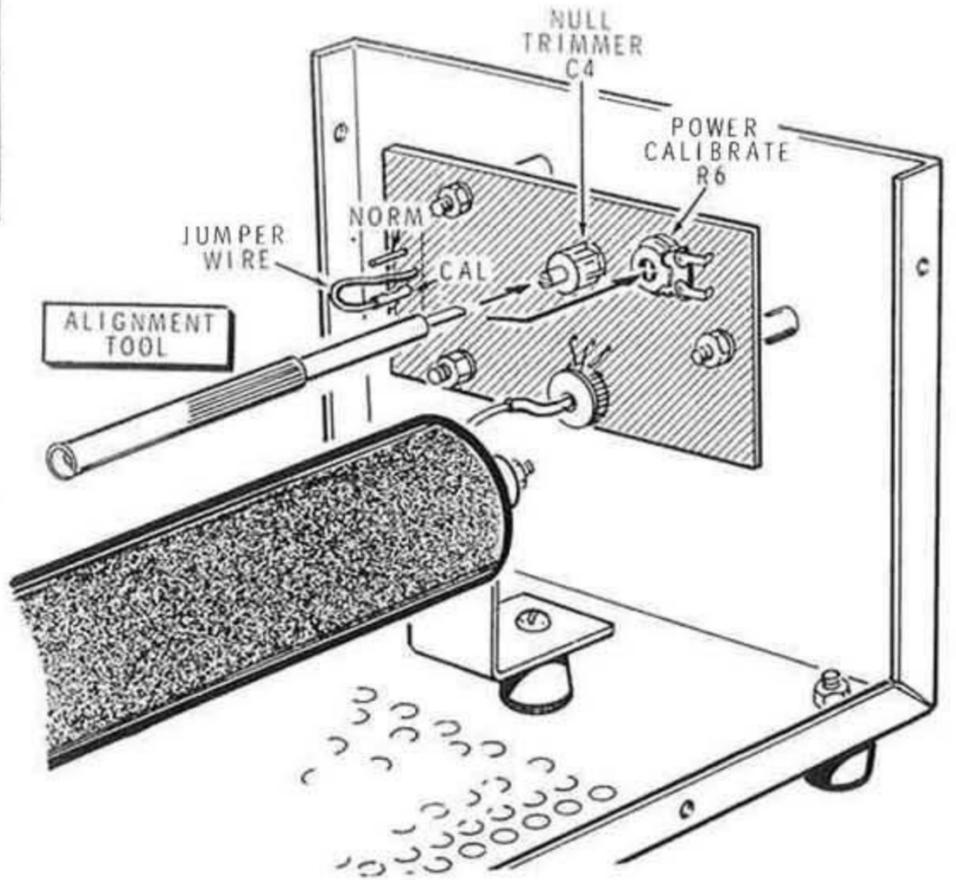

Figure 2
- ( ) Connect the CALIBRATION jumper on the circuit board to the CAL pin (see Figure 2).
- ( ) Refer to Figure 2 and adjust NULL trimmer C4 on the circuit board for the best null or greatest dip of the meter needle. This reading should be at or near zero. NOTE: Use only the alignment tool (nut starter) for this adjustment.